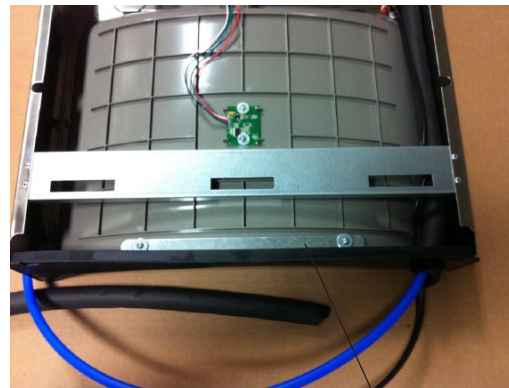

Fig. 11
- 6) **Install gasket on bottom of bottle filler tower** with gasket support bracket, (2) washers, & (2) screws (See Fig 11).